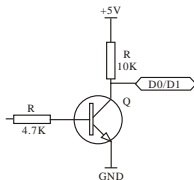

Figure 1
2.1 Wiegand output interface (See Figure 1)